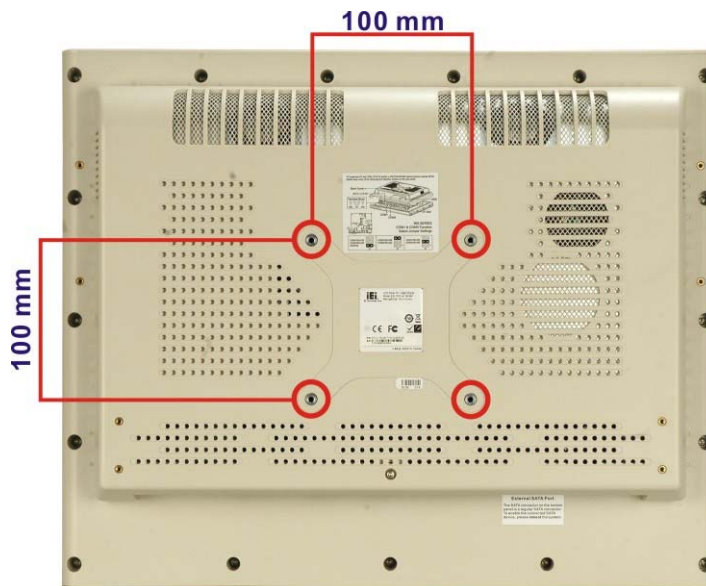

Figure 4-7: Arm Mounting Retention Screw Holes
Step 3: Align the retention screw holes on the mounting arm interface with those in the flat panel PC, as shown in **Figure 4-7**.